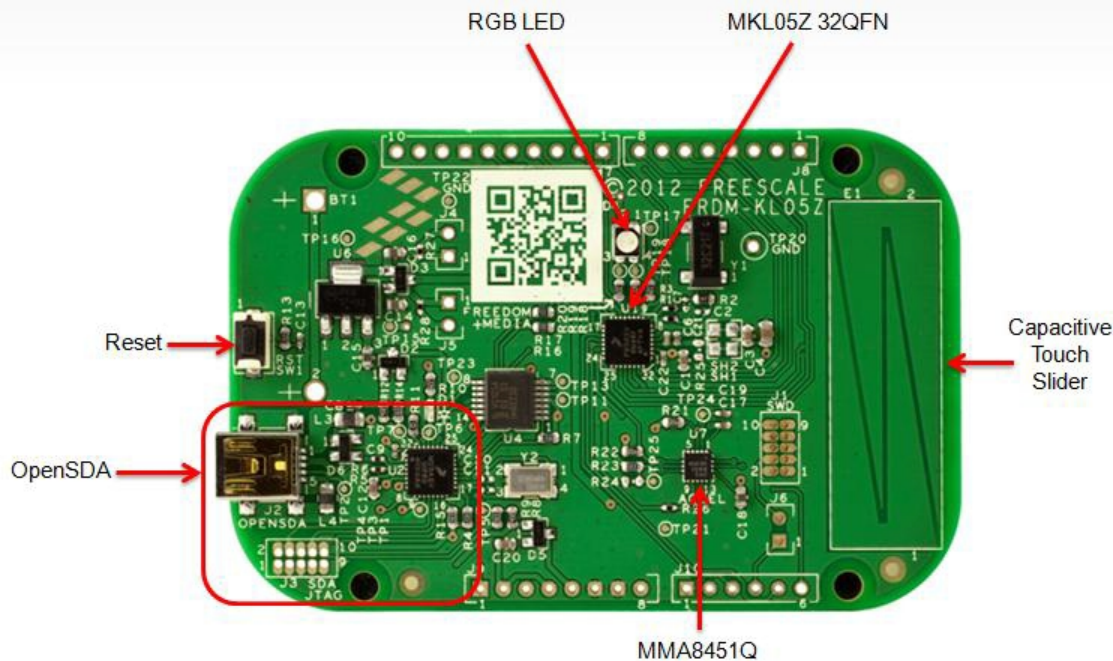

Figure 1. NXP FRDM-KL05Z connectors and components
- a. Insert the mini-B plug of the USB cable into the Open SDA USB connector of the FRDM-KL05Z, which is shown in Figure 1.